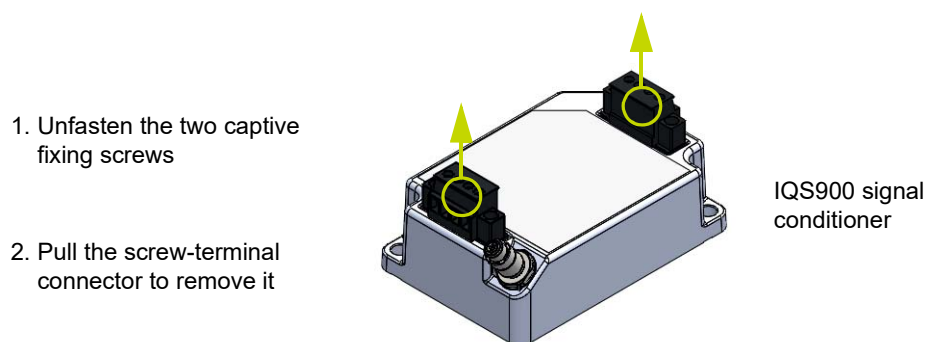
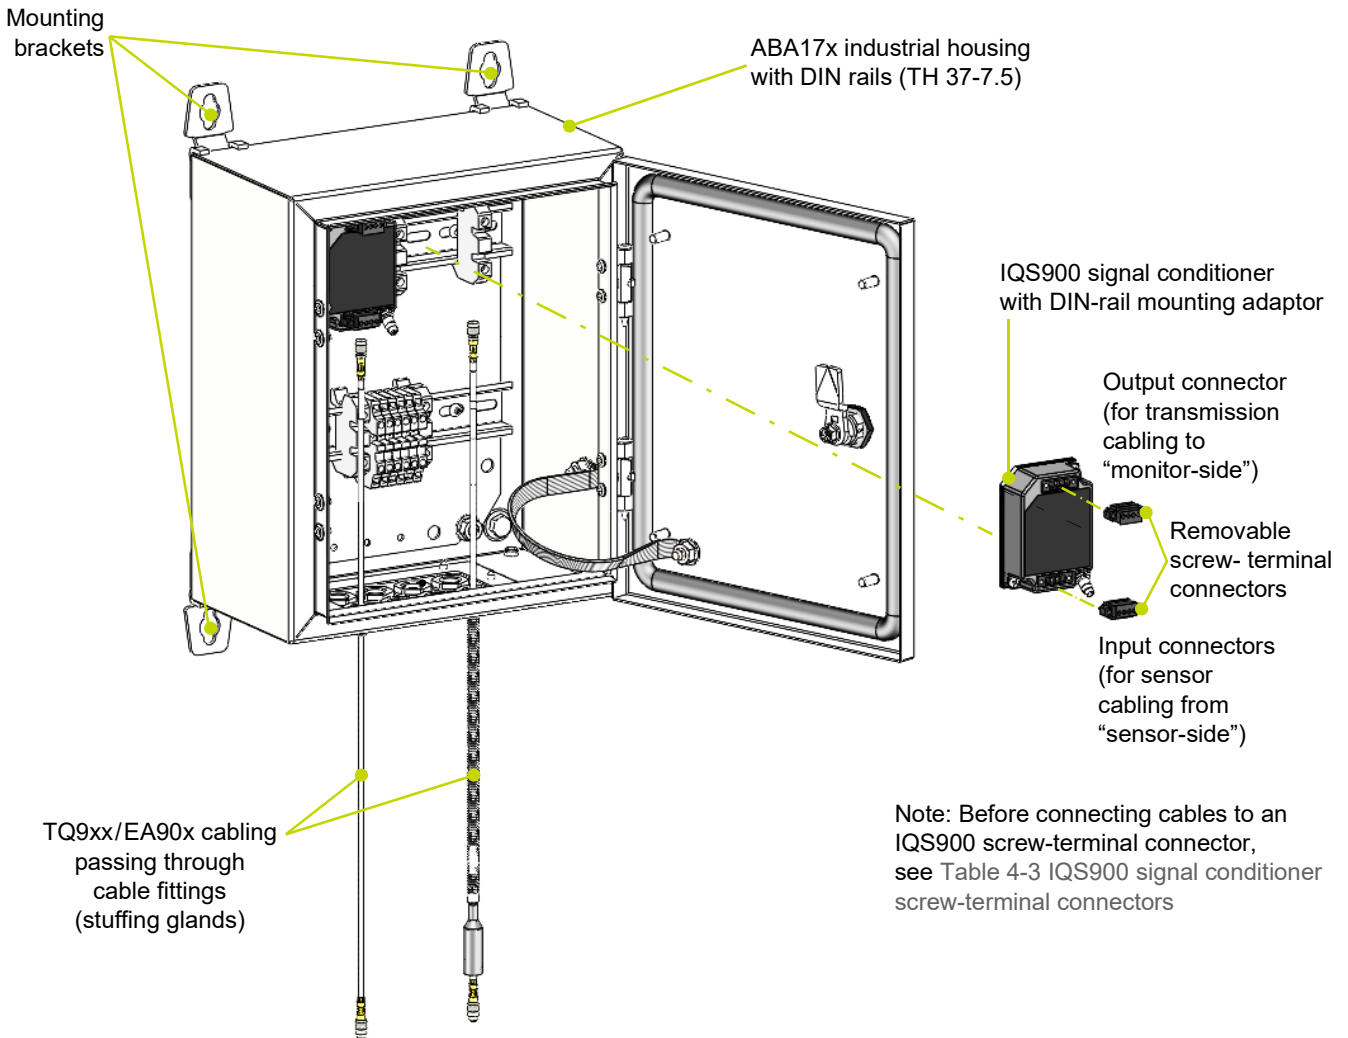

Figure 4-5: Removing a screw-terminal connector from the main body of an IQS900 signal conditioner
Figure 4-6: IQS900 signal conditioners in an ABA17x industrial housing
The IQS900's housing features a self-locking miniature coaxial connector and removable screw-terminal connectors that can be unplugged from the main body of the housing to simplify installation of the signal conditioner (see Figure 4-6).
The sensor cabling from the “sensor-side” uses a self-locking miniature coaxial connector and the transmission cable to the “monitor-side” uses a removable screw-terminal connector (see Figure 4-5 and Figure 4-6).
- See Figure 4-6, Table 4-3 and 8.2 General wiring diagrams.